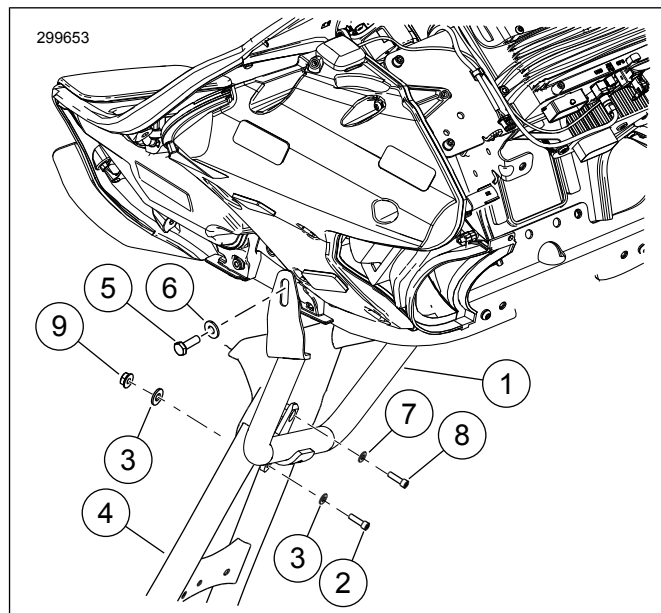

Figure 3.
1. See Figure 3. Hold fairing support assembly in position.
2. See Figure 3. Loosely install mid fairing support mount screws (2, 8), flat washers (3, 7) and nut (9) from kit.
3. Install side brackets to vehicle with two screws (5) and washers (6) that were removed earlier.
4. Tighten upper mid fairing mount screw (8).